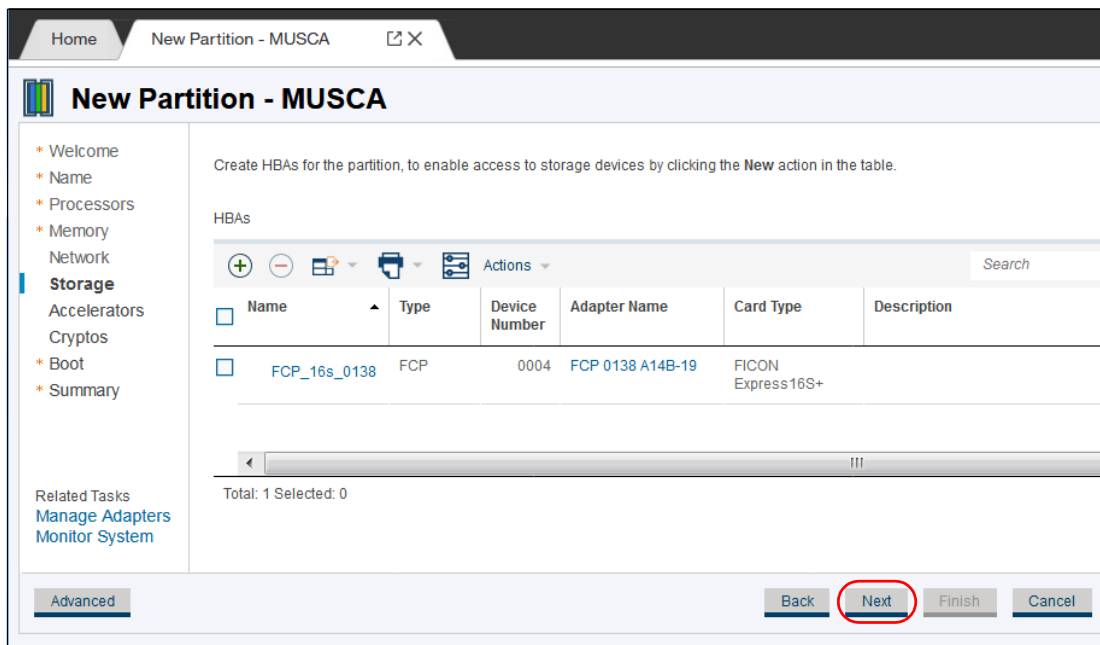

Figure 16-38 FCP (NPIV) device
Figure 16-38 shows the NPIV device (device 0004) that was created for our partition.
8. Configure the storage adapter (HBA). In our example, we used FCP storage (see Figure 16-38 on page 412).